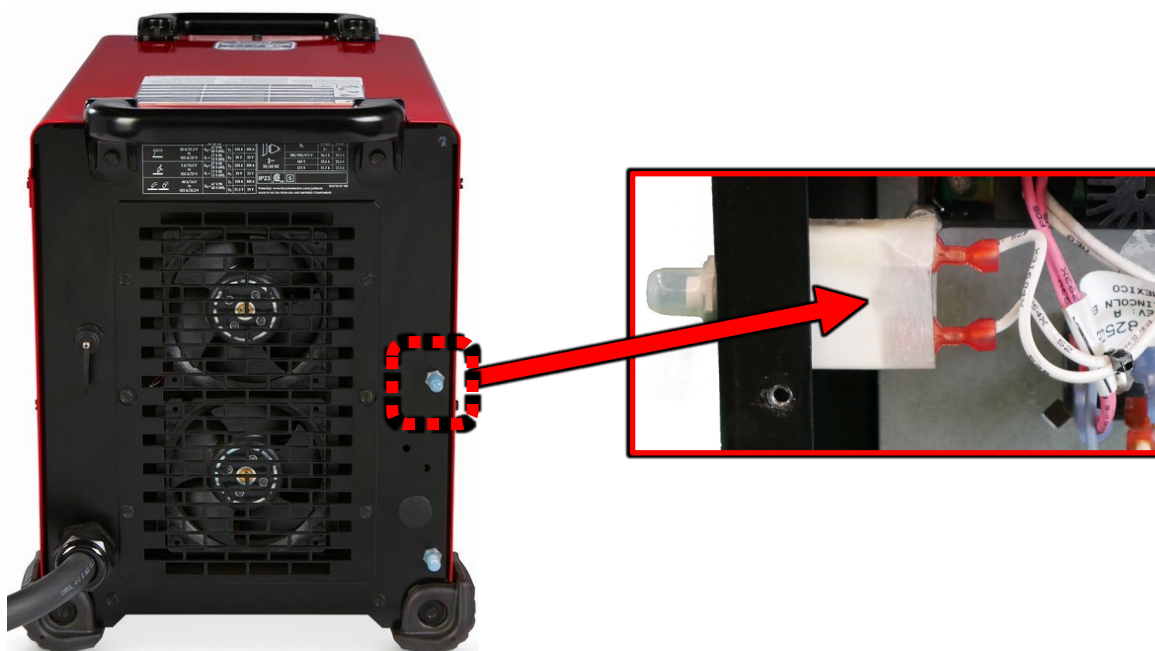

Figure F.1
1. For location of CB1 refer to Figure F.1.